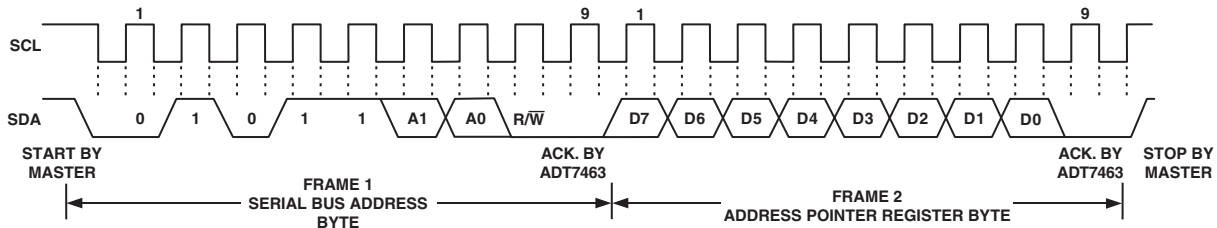

Figure 8. Writing to the Address Pointer Register Only
1. If the ADT7463's Address Pointer Register value is unknown or not the desired value, it is first necessary to set it to the correct value before data can be read from the desired data register. This is done by performing a write to the ADT7463 as before, but only the data byte containing the register address is sent as data is not to be written to the register. This is shown in Figure 8.
2. If the Address Pointer Register is known to be already at the desired address, data can be read from the corresponding data register without first writing to the Address Pointer Register, so Figure 8 can be omitted.